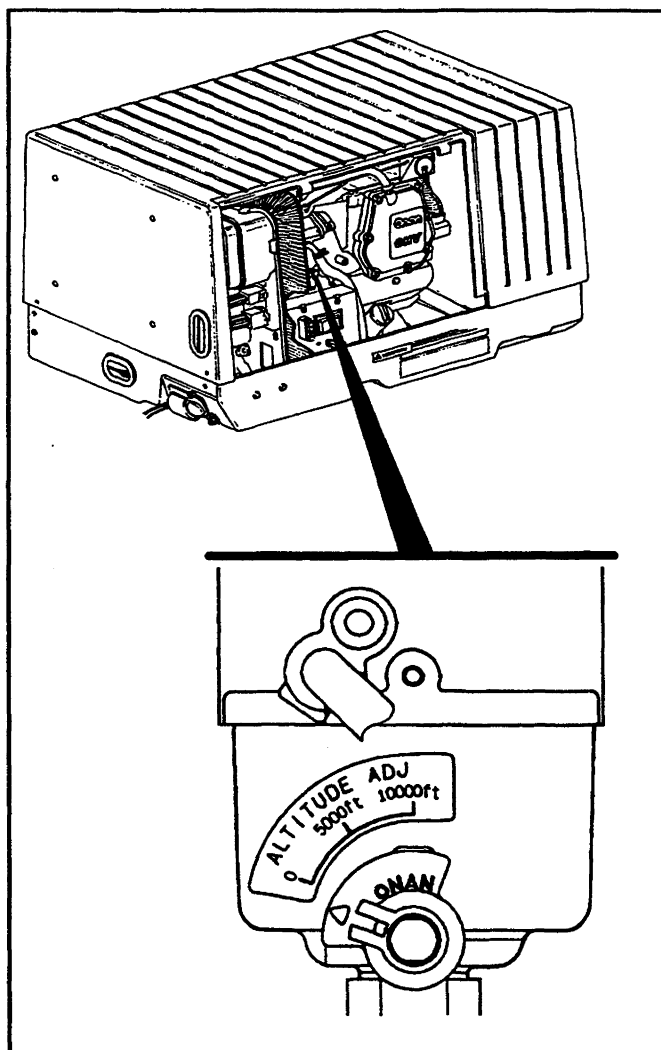

FIGURE 6. ALTITUDE ADJUST KNOB
2. Set the altitude adjust knob (Figure 6) for your altitude.
5. Set the altitude adjust knob (Figure 6) for your altitude.
For best fuel economy and genset operation set the carburetor altitude adjust knob (Figure 6) for the altitude of the lake or river. (See *Powering Equipment* for information on how altitude affects the maximum power output of the genset.)